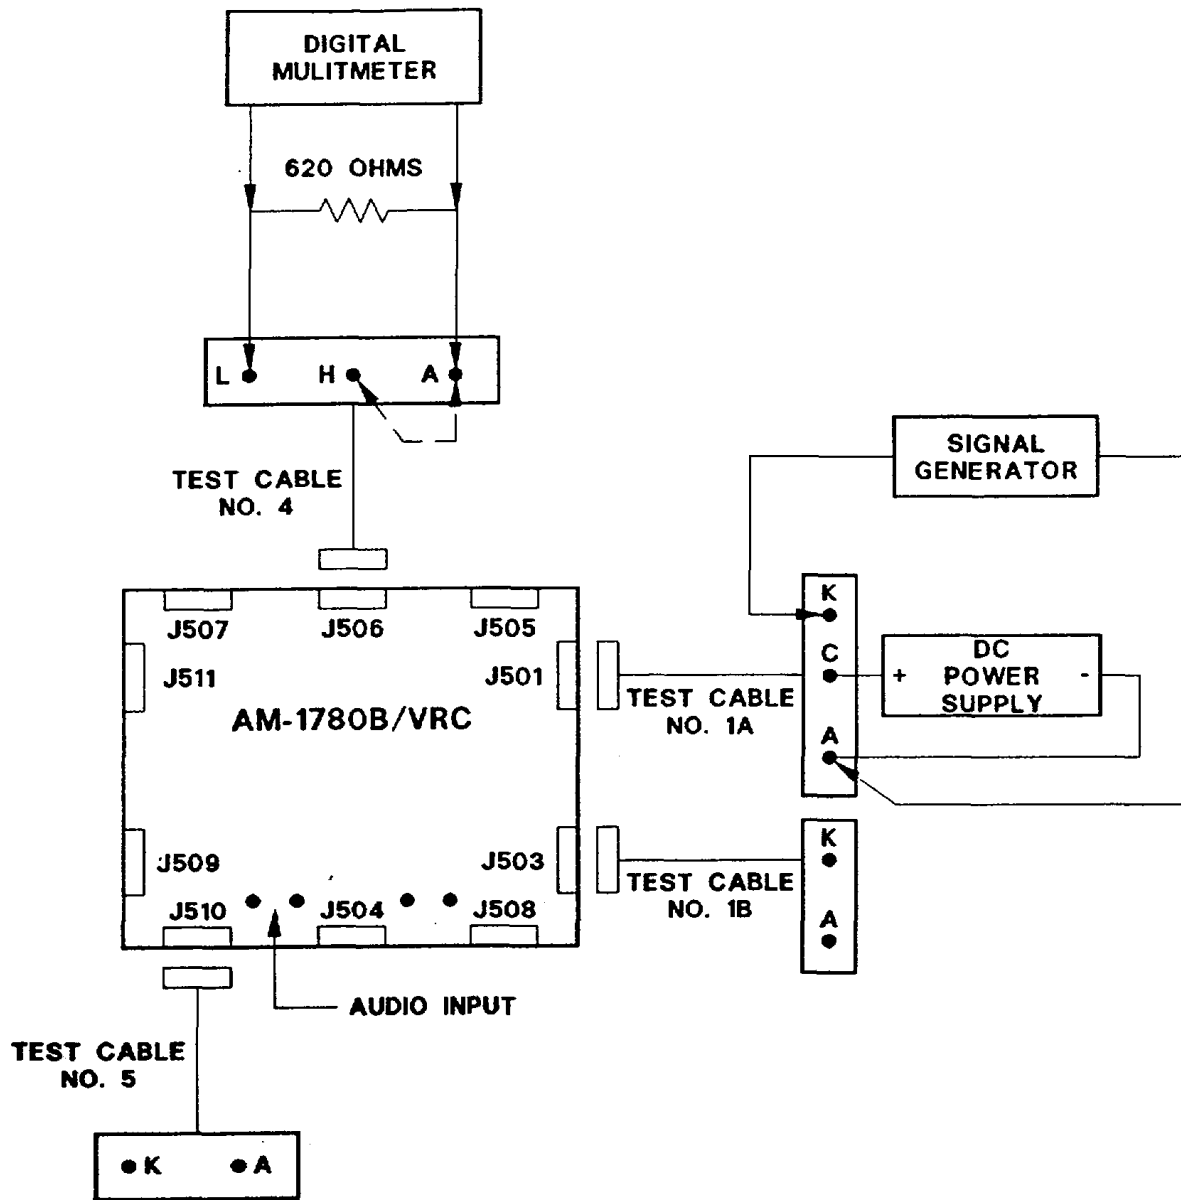

Figure 2-11. DS Test Setup K.
- b. Connect a 620 ohm resistor between J506-L and ground (fig. 2-11). Connect a digital multimeter, set to read ac volts, across the 620 ohm resistor.